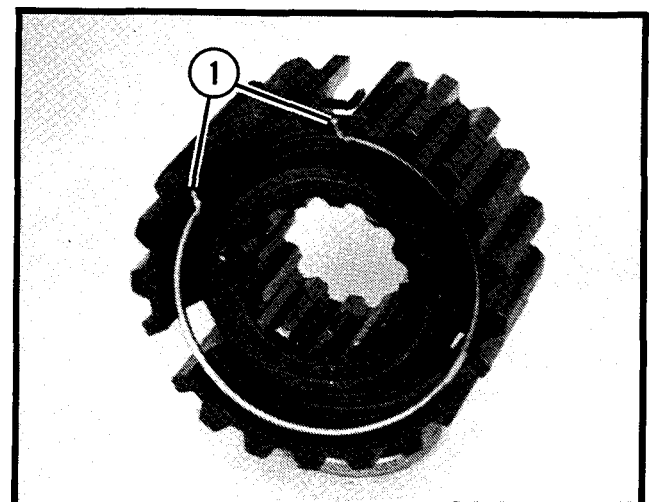

Figure 10.
1. Install springs in the hub as shown in Figure 10. To ensure proper tension on shift plates the spring ends must be placed as shown.